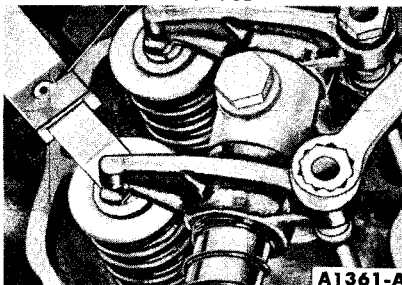

FIG. 18—Valve Lash Adjustment
valve lash (Fig. 18) using a step-type feeler gauge only ("go" and "no go"). The final (hot) intake and exhaust valve lash should be 0.018 inch.
4. Adjust the intake and exhaust valve lash for No. 1 cylinder (Fig. 18). The preliminary (cold) intake and exhaust valve lash is 0.018 inch. Use a step-type feeler gauge (“go” and “no go”) to adjust the valves.